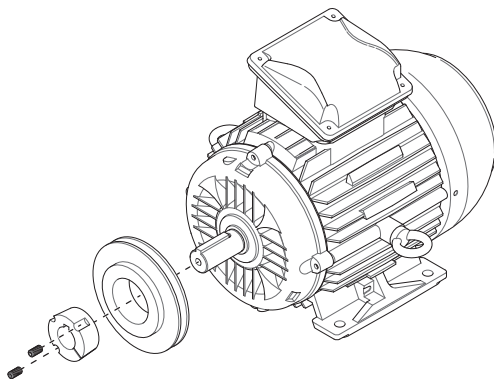

Fig. 40: Removing the belt pulley from the motor shaft (BD)
2. Conduct measurement according to figure 40.